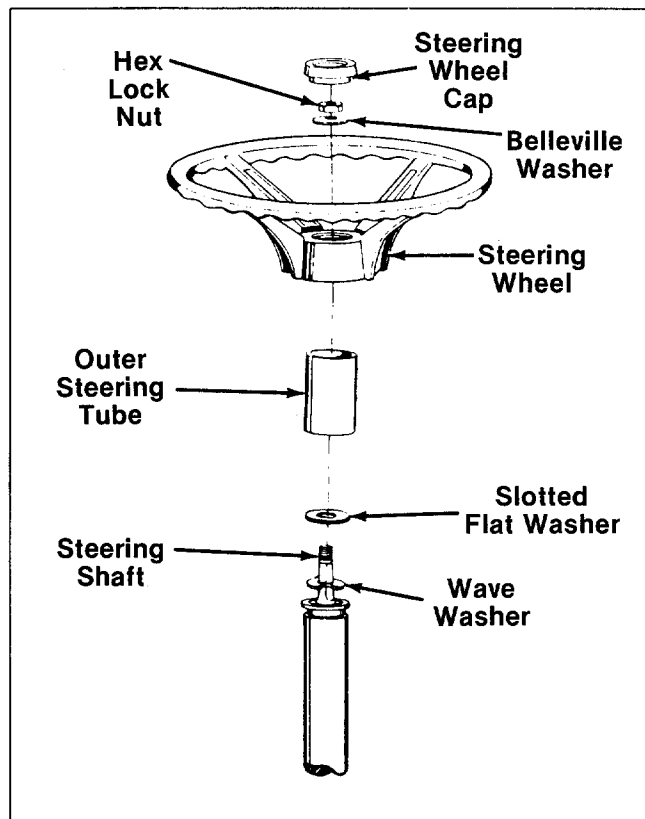

FIGURE 3.
1. Place the wave washer over the steering shaft. See figure 3.